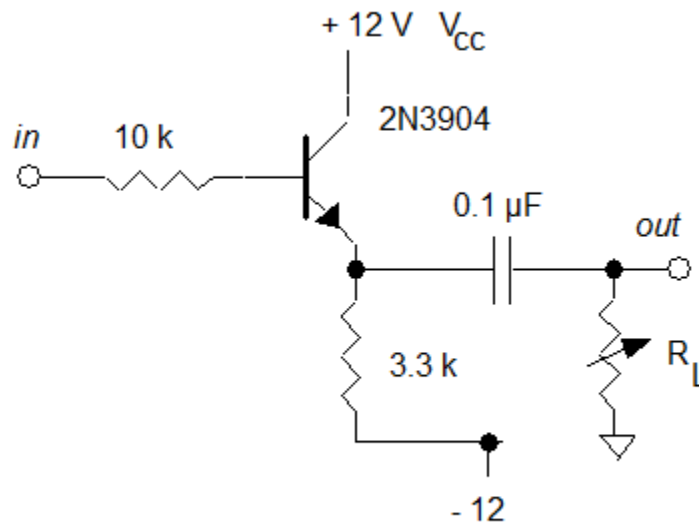

Figure 4-8
* Set the resistor substitution box resistance (R_L) to the largest possible value. Then connect the resistor substitution box across the output of the amplifier, to serve as a load resistance, as shown in Figure 4-8.